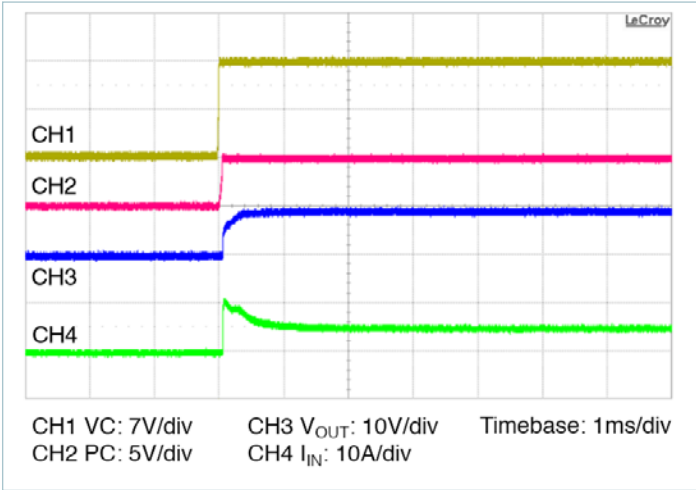

Figure 14 — Start up from application of  $V_C$ ;  $V_{IN}$  pre-applied  $C_{OUT} = 1600\mu F$
- Stand-alone operation (VC applied after VIN): In this case the VTM output will begin to rise upon the application of the VC voltage (See Figure 14). The Adaptive Soft Start Circuit may vary the output rate of rise in order to limit the inrush current to its maximum level. When starting into high capacitance, or a short, the output current will be limited for a maximum of 1200µs. After this period, the Adaptive Soft Start Circuit will time out and the VTM module may shut down. No restart will be attempted until VC is re-applied or PC is toggled. The maximum output capacitance is limited to 1600µF in this mode of operation to ensure a successful start.